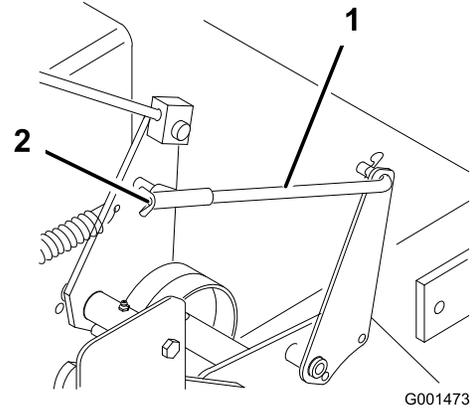

Figure 39
5. To adjust the brake, rotate the wing nuts on the brake rods (Figure 39). Turn the wing nuts clockwise to tighten the brake and counterclockwise to loosen the brake.